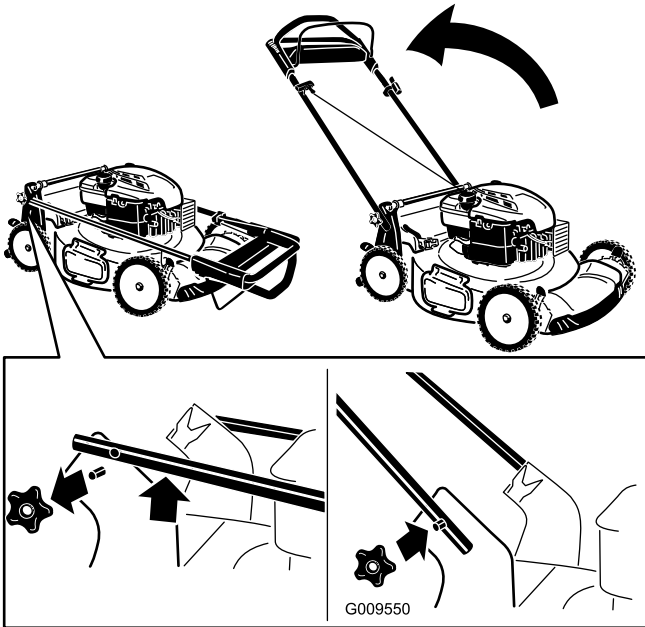

Figure 4
1. Remove the handle knobs from the machine (Figure 4).
3. Install and tighten the handle knobs that you removed in step 1 (Figure 4).